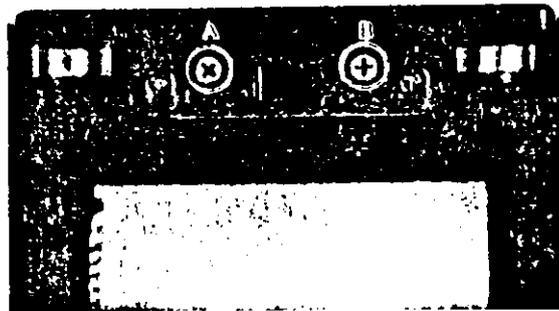
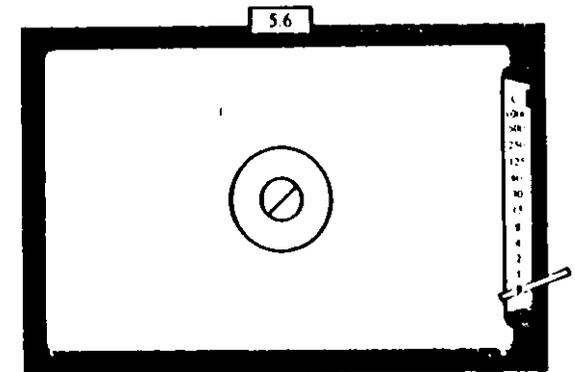

Fig. 20
Fig. 21
6. F stop indication (see Fig. 20)
- 3) Look through the finder, and turn F stop indication adjusting **SCREW** in Fig. 20 so that the F stop (5, 6) appearing in the F stop indication window of Fig. 21 comes to the center.